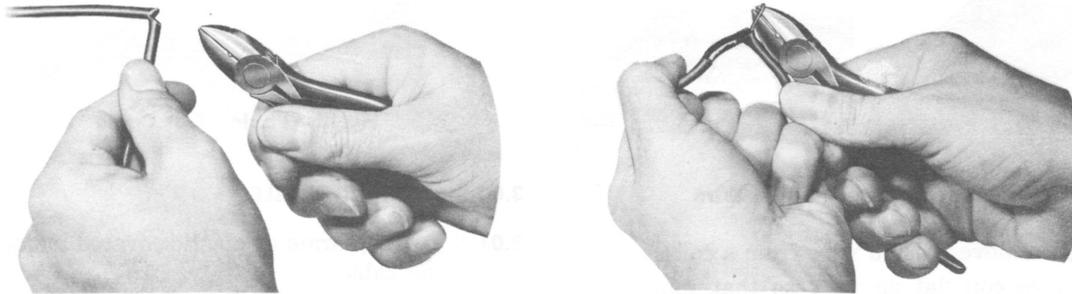

Fig. 5 — Skinning Jacketed Wire
4.00 SKINNING CONDUCTORS (STATION WIRE, BLOCK WIRE, AND CABLE), FIG. 5, 6, 7, 8, AND 9